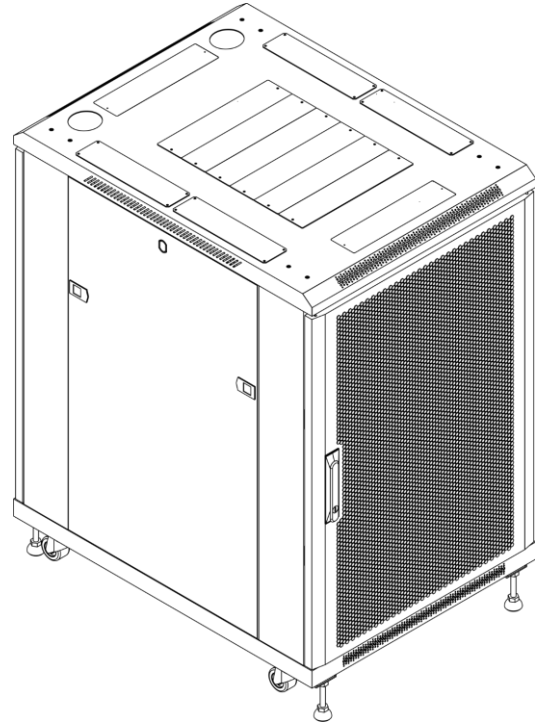

Fig. 42
- 26) Repeat step 25 for the other **mesh door (E)**, as shown in Fig. 42.
- 27) Use 2 sets of **keys (Q)** to lock and unlock the doors. The cabinet is now ready for use.